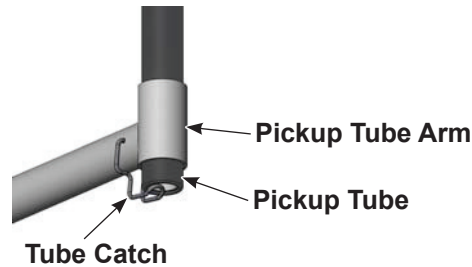

Figure 4-1 Pickup Tube Bracket Use
1. See Figure 4-1. Lift the pickup tube up and swing the tube catch do and under the pickup tube end to hold it in place on the arm.